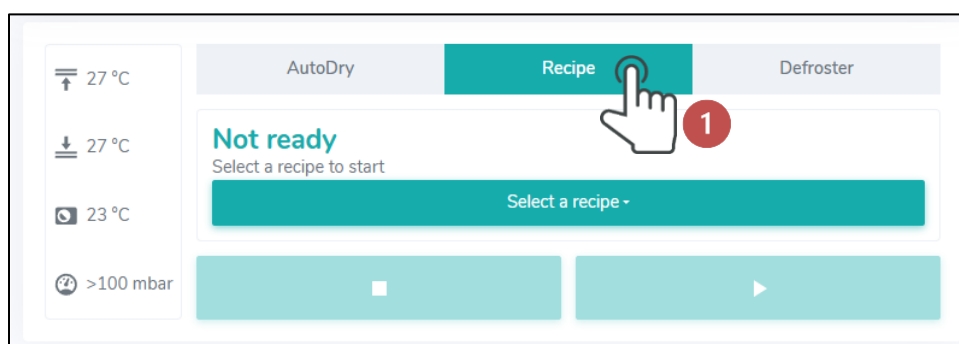

Figure 44
1. First select the Recipe tab from the top horizontal bar (Figure 44).